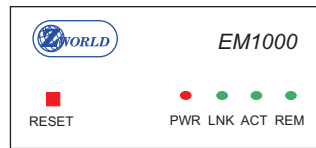

Figure 2-5. EM1000 Front Panel
5. With power applied to the EM1000 (the red PWR LED should be lit), hold down the **RESET** button (shown in Figure 2-5 for the EM1000, and in Figure 2-4(b) for the EM1010), for at least 5 seconds, then release it.